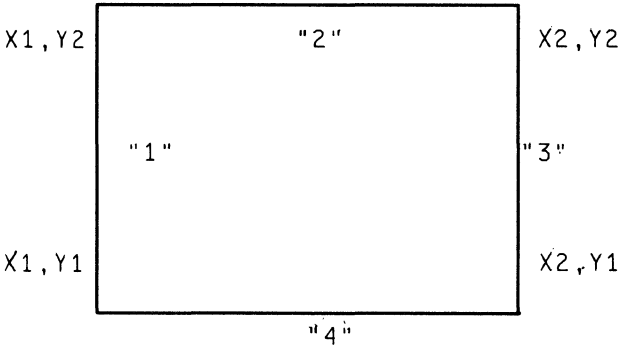

Figure 3-10. Drawing a Square on the Display
- d. Send the 1345A a Plot Y2 command with the beam on. This moves the beam to the X1,Y2 point shown in figure 3-10 (draws vector “1”).
The 16-bit HEX data equivalence code to draw figures 3-10 and 3-11 is shown below: